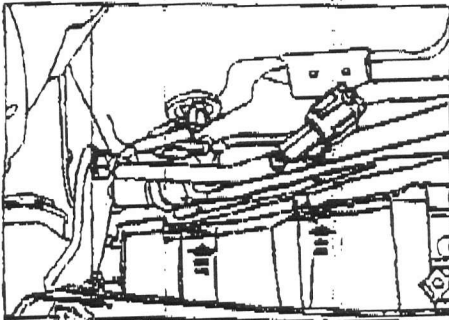

Fig. 10
10. On the passenger's side, the lower fascia will need to be loose for wrench and socket entry. Remove the fasteners located as shown in Fig. 10. (Do NOT throw away)